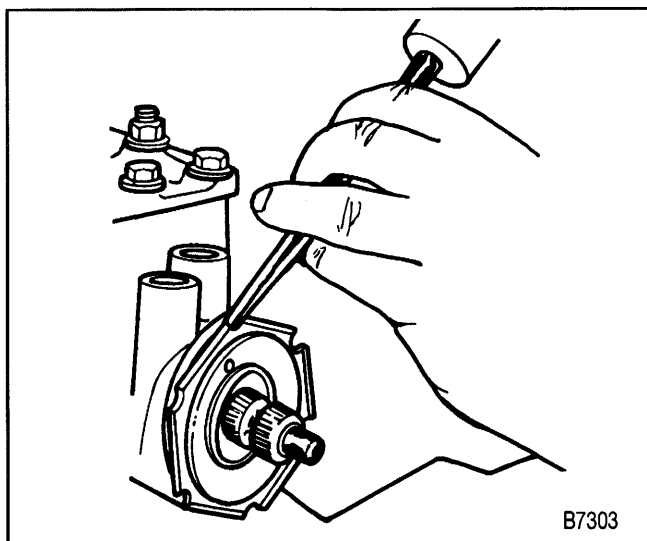

Figure 6—Loosening the Adjuster Plug Nut
1. Remove the adjuster plug nut (figure 6).